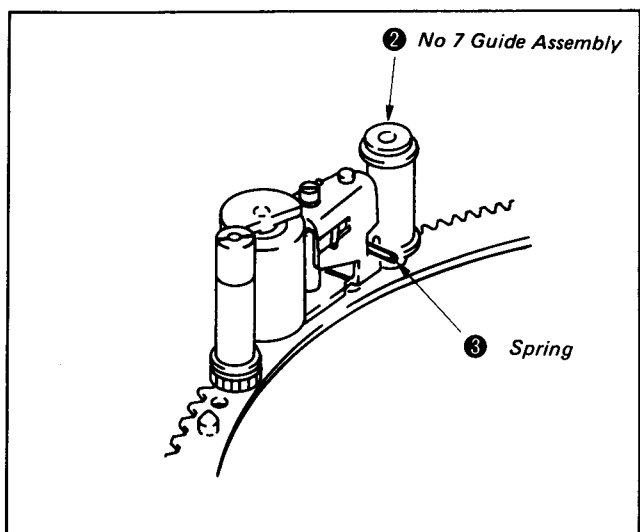

Fig. 8-16.
- 3) Change the hooking position of the spring ③ on the No. 7 guide assembly ②. (See Fig. 8-16.)